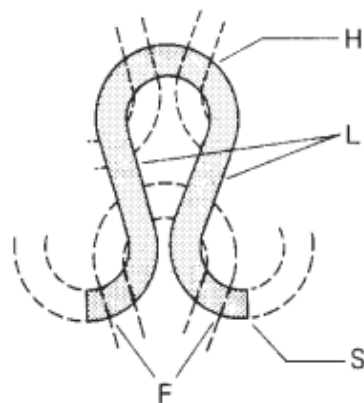

Fig. 5.1 Intermeshing points of a needle loop.
The *needle loop* (H + L in Fig. 5.1) is the basic unit of knitted structure. When tension in the fabric is balanced and there is sufficient take-away tension during knitting, it is an upright noose formed in the needle hook. It consists of a *head* (H) and *two side limbs* or *legs* (L). At the base of each leg is a *foot* (F), which meshes through the head of the loop formed at the previous knitting cycle, usually by that needle. The yarn passes from the foot of one loop into the foot and leg of the next loop formed by it.
The *sinker loop* (S in Fig. 5.1) is the piece of yarn that joins one weft knitted needle loop to the next. On bearded needle weft knitting machines, *loop-forming sinkers* form the sinker loops in succession between the needles – hence the origin of the term sinker loop. On latch needle weft knitting machines, however, the sinker loops are automatically formed as the needles, in succession, draw their new loops.